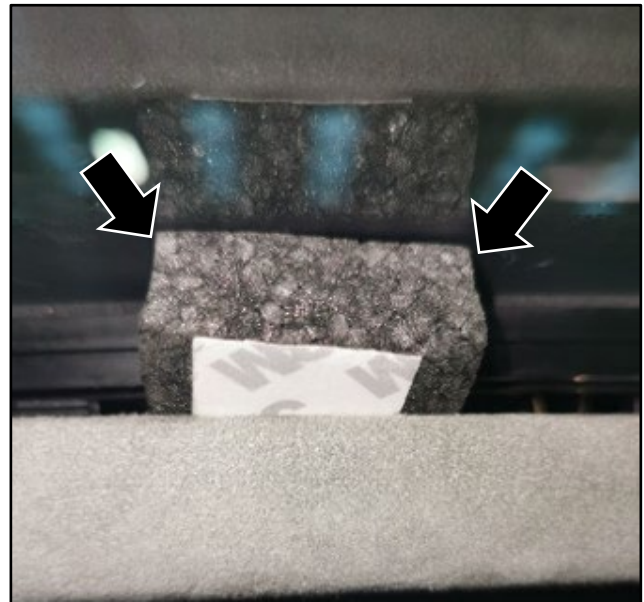

Figure 4
4. Put the headliner foam block into position between the roof rail and the headliner (refer to Figure 4).